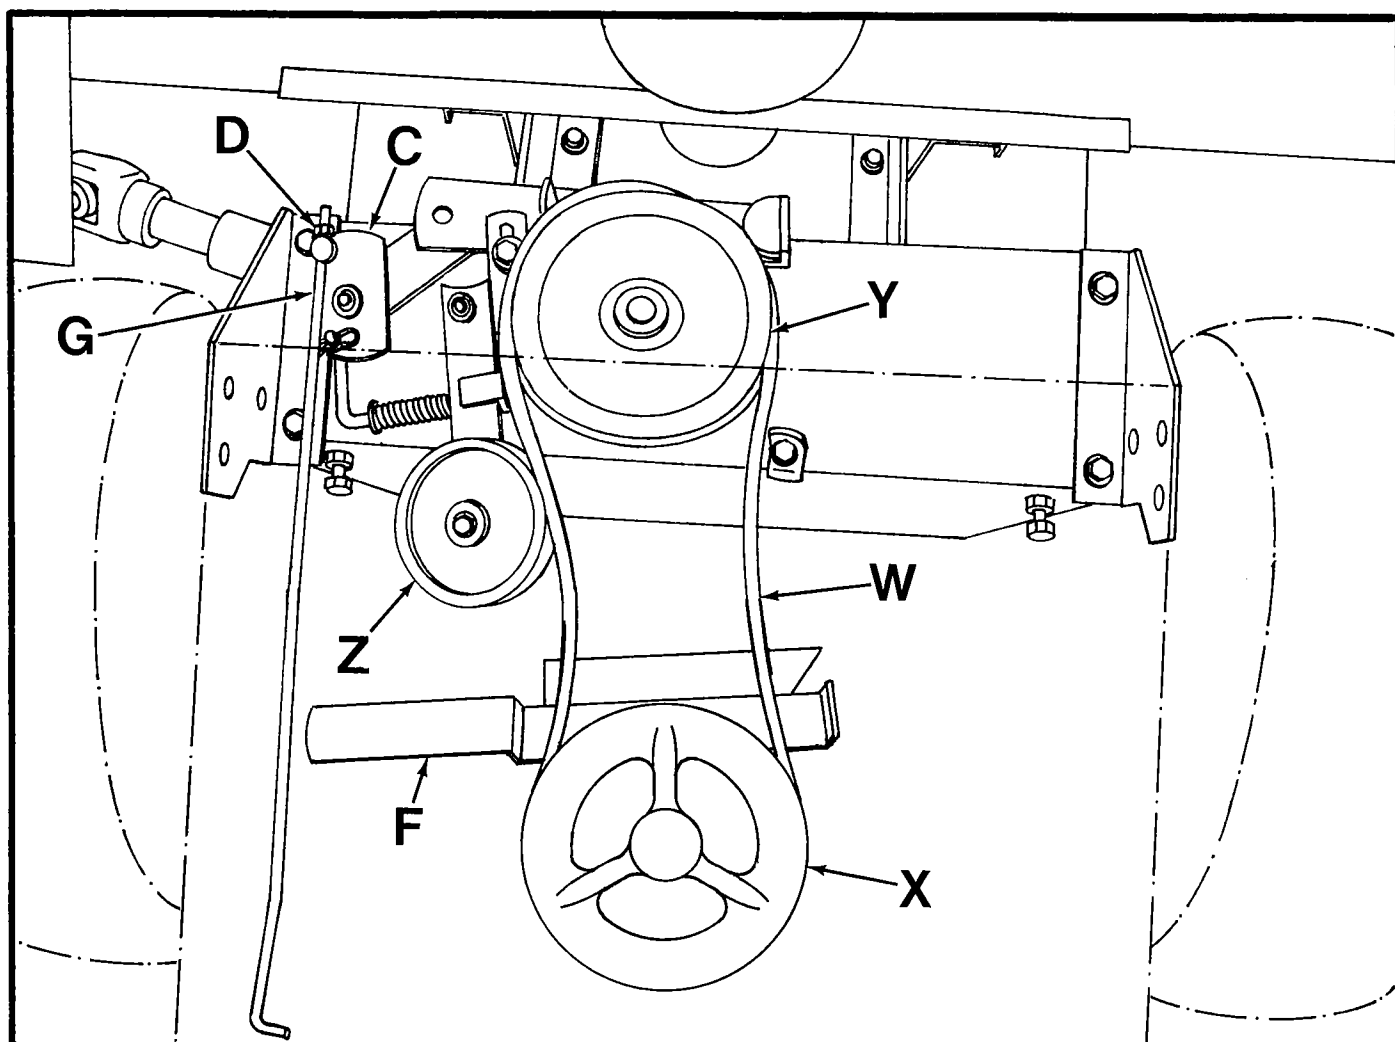

FIG. 5
1. Slide drive v-belt (W) between tractor PTO pulley (X) and snow thrower v-belt guide (F). (See Fig.)
2. Assemble drive v-belt (W) around tractor PTO pulley (X).
3. Check snow thrower drive pulley (Y) and clutching idler pulley (Z) to make sure v-belt is assembled according to drive layout Figure 5.